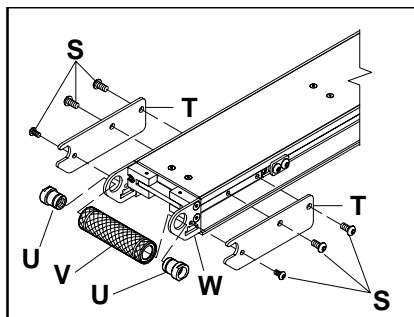
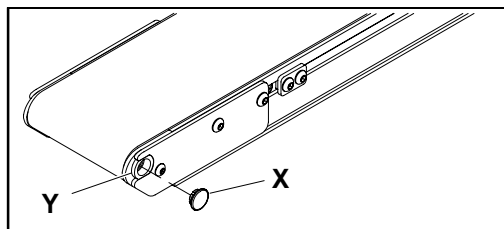
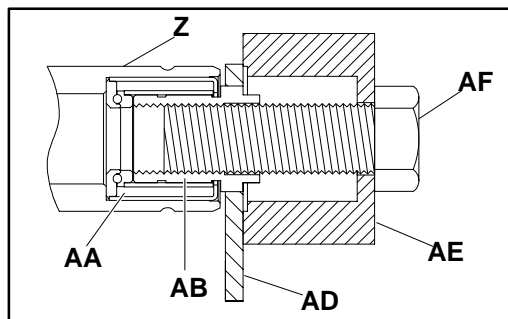

Figure 26
Figure 27
Figure 28
2. Remove the tail cover plate screws (S of Figure 26) and tail cover plates (T) on both sides of the conveyor.
3. Remove the retaining sleeves (U) and pulley (V). If retaining sleeves are frozen, continue with the next step.
4. All non-driven positions have a plastic plug (X of Figure 27) installed into the ends of the pulley retaining sleeves (Y). Use a small flat screwdriver to remove this plug.
5. Position the bearing anvil/sleeve removal tool (AE of Figure 28), part number ‡ 25-09, over the retaining sleeve (U of Figure 26 or AB of Figure 28).
6. Insert the special threaded bolt (AF of Figure 28), part number ‡ 906-278, through the bearing anvil/sleeve removal tool (AE) and into the retaining sleeve (AB).
7. Tighten the bolt (AF) until the retaining sleeve (AB) is free of the tail pulley plate (AD).
8. Remove the retaining sleeve (AB) from the bolt (AF) and repeat for the other side.
9. Take pulley (Z) out of the conveyor frame.
Refer to Figure 26 on page 14 to install pulleys as described below:
1. Insert pulley (V of Figure 26) between the tail pulley plates (W).
2. Slide the retaining sleeves (U) through openings in the tail pulley plates (W) and into the pulley (V) on each side.
3. Install the plastic plug (X of Figure 27) into the ends of the pulley retaining sleeves (Y).
4. Secure the tail cover plates (T of Figure 26) to the conveyor with tail cover plate screws (S).